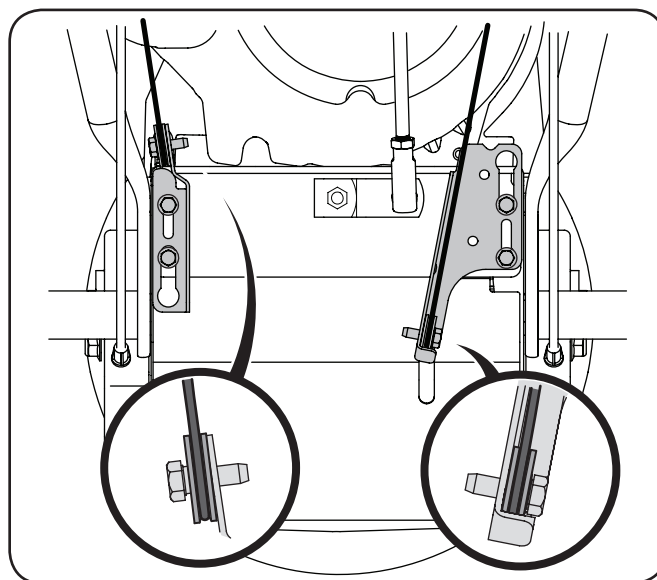

Figure 3-3
**NOTE:** Make certain the cables are seated properly in the roller guides. See Figure 3-3.